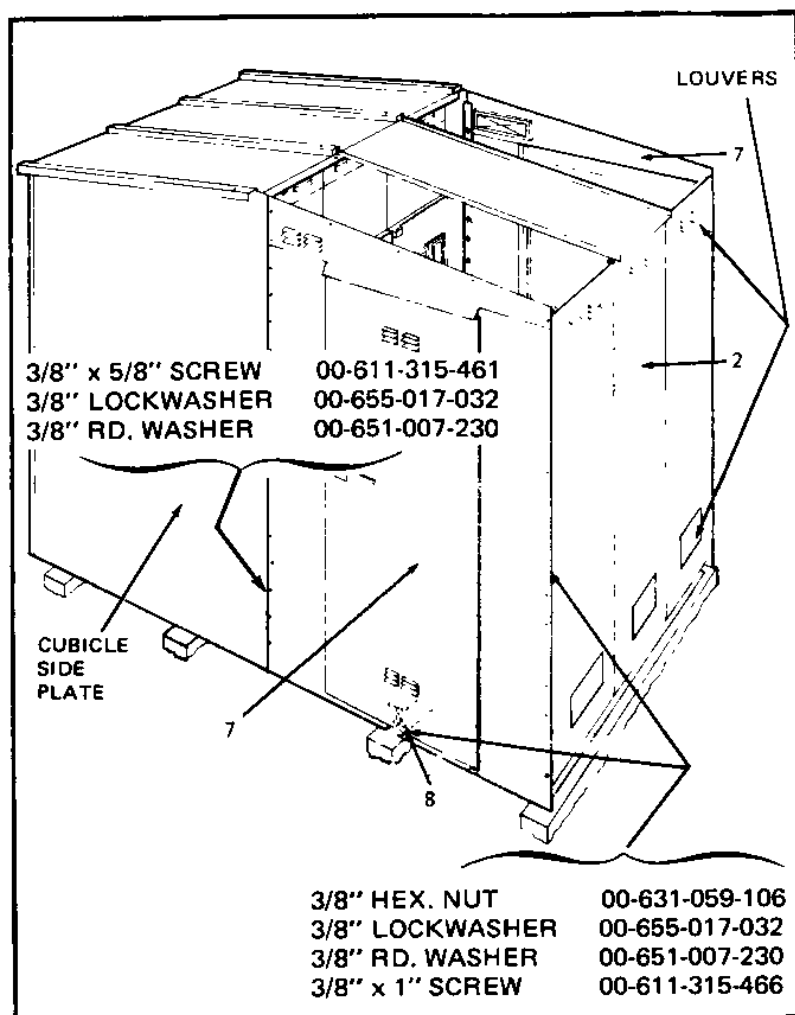

Figure 27. Door Installation - Single Aisle Layout
7. Set door assemblies (7) in place (See Figure 27). Bolt the doors to the aisle wall (2) and to side plate of the cubicle.